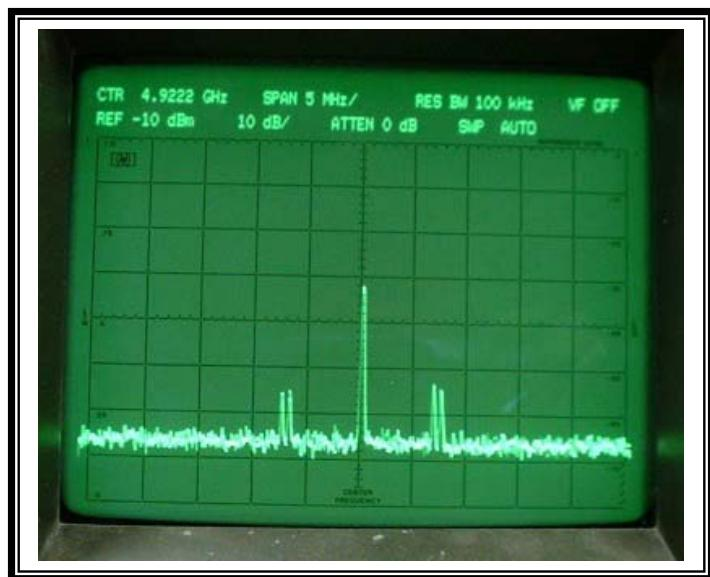

Fig. 3 AT-100 2nd Harmonic Emission -62 dBc
The requirement contained in §90.210(c)(1) is within the modulation bandwidth of the authorized emission (16MØF8W) and is not applicable in this case. With respect to §90.210(c)(2) and §74.637, emissions removed from the unmodulated fundamental by 45 MHz (250% bandwidth) were measured greater than -68 dBc in compliance with the requirement ($29 \log 45^2 / 11$ dB or 65.6 dBc) for such suppression. With respect to §90.210(c)(3) and §74.637, the measurement was made using a notch filter at the fundamental to prevent analyzer overload. The level of the EUT AT-100 transmitter measured +20 dBm on the spectrum analyzer before the notch filter was inserted in circuit. The level of the second harmonic is measured at -42 dBm on the analyzer placing the second harmonic at -62 dBc with respect to the unmodulated fundamental carrier. The suppression of the second harmonic exceeds -46 dBc ($43 + 10 \log (2)$) in compliance with §90.210(c)(3) and §74.637. Figure 3 shows the unmodulated main and subcarriers of the EUT AT-100 at the second harmonic frequency.